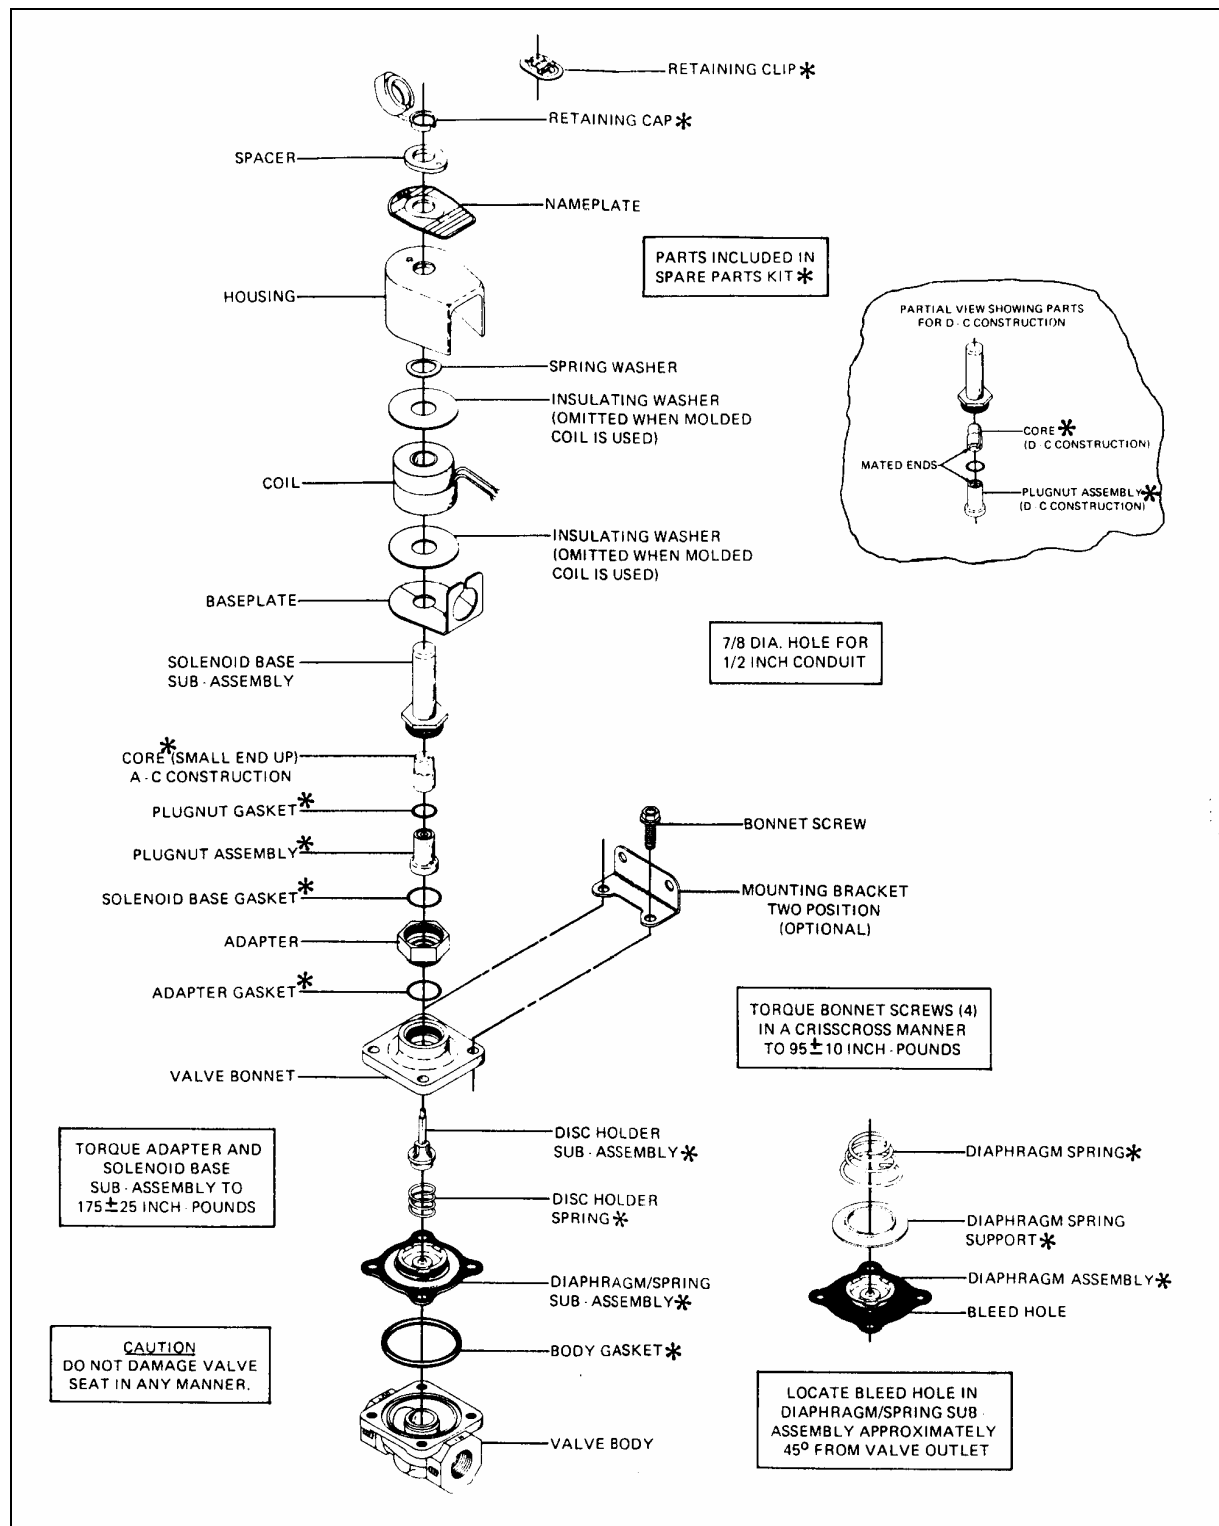

FIGURE 33: DRIVER'S WATER SOLENOID VALVE
3. Coil is now accessible for replacement. Reassemble by reversing sequence of disassembly. Refer to exploded view (Fig. 33) for identification and location of parts.
3. Disassemble valve in an orderly fashion paying careful attention to exploded view (Fig. 33) provided for identification of parts.
1. Reassemble in reverse order of disassembly, paying careful attention to exploded view provided for identification and placement of parts (Fig. 33).